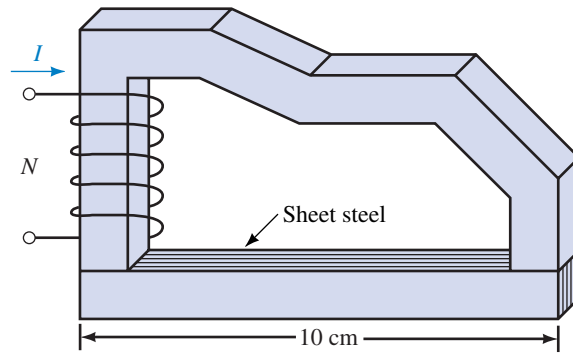

FIGURE 12-50
20. For the circuit of Figure 12-50, $\Phi = 141\text{ }\mu\text{Wb}$ and $N = 400$ turns. The bottom member is sheet steel with a stacking factor of 0.94, while the remainder is cast steel. All pieces are $1\text{ cm} \times 1\text{ cm}$. The length of the cast steel path is 16 cm. Find current I .